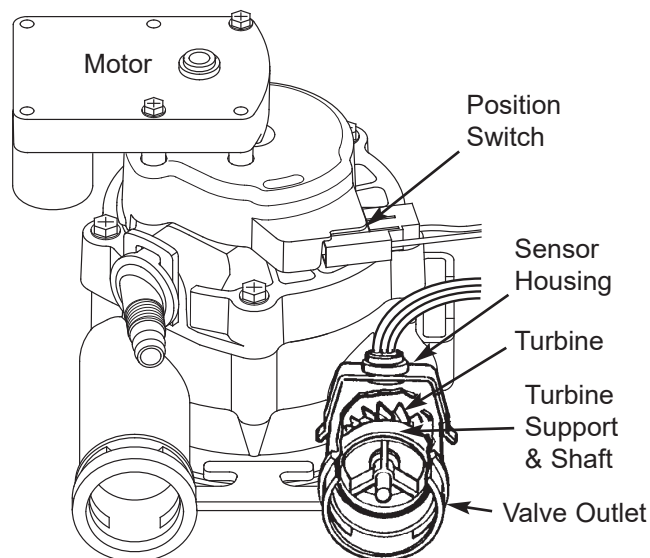

FIG. 43
**TURBINE OPERATION:** If no water is flowing through the softener, the turbine indicator displays three zeros. When water is flowing, a 000 to 199 count repeats for each gallon of water passing through the turbine. To check for positive operation of the turbine if zeros are shown, open a nearby soft water faucet and observe the turbine count. If you don't get a reading in the display with faucet open, pull the sensor housing from the valve outlet port (see Fig. 43). Pass a small magnet back and forth in front of the sensor. You should get a reading in the display. If you get a reading, unhook the inlet and outlet plumbing and check the turbine for binding.